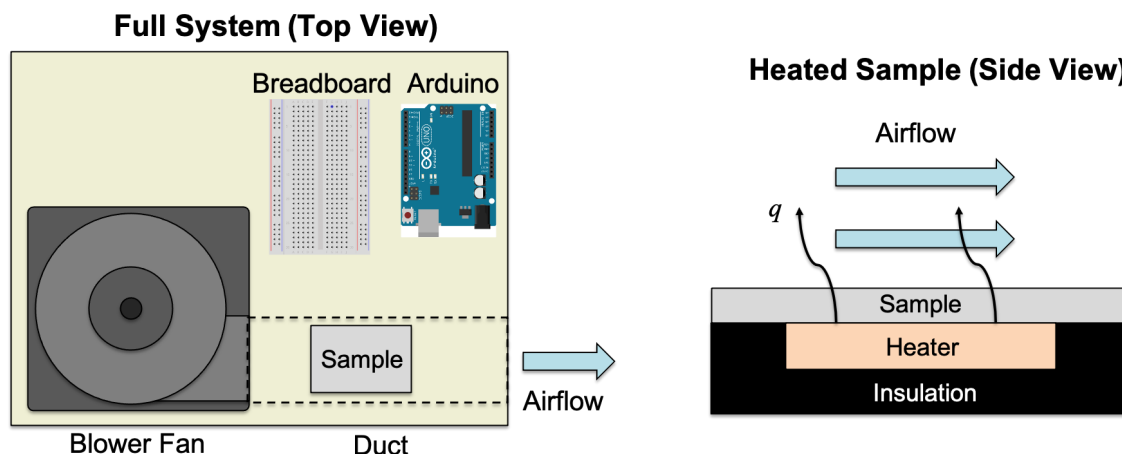

Figure 3 – A heated sample is cooled by airflow from a blower fan. The temperature and heater power are recorded via an Arduino microcontroller.
You will now build the thermal system shown in Fig. 3. This is a fairly complex system, so we will simplify things by breaking it up into smaller subsystems.
1. Sketch the complete thermostat system in Fig. 3 in your lab notebook.